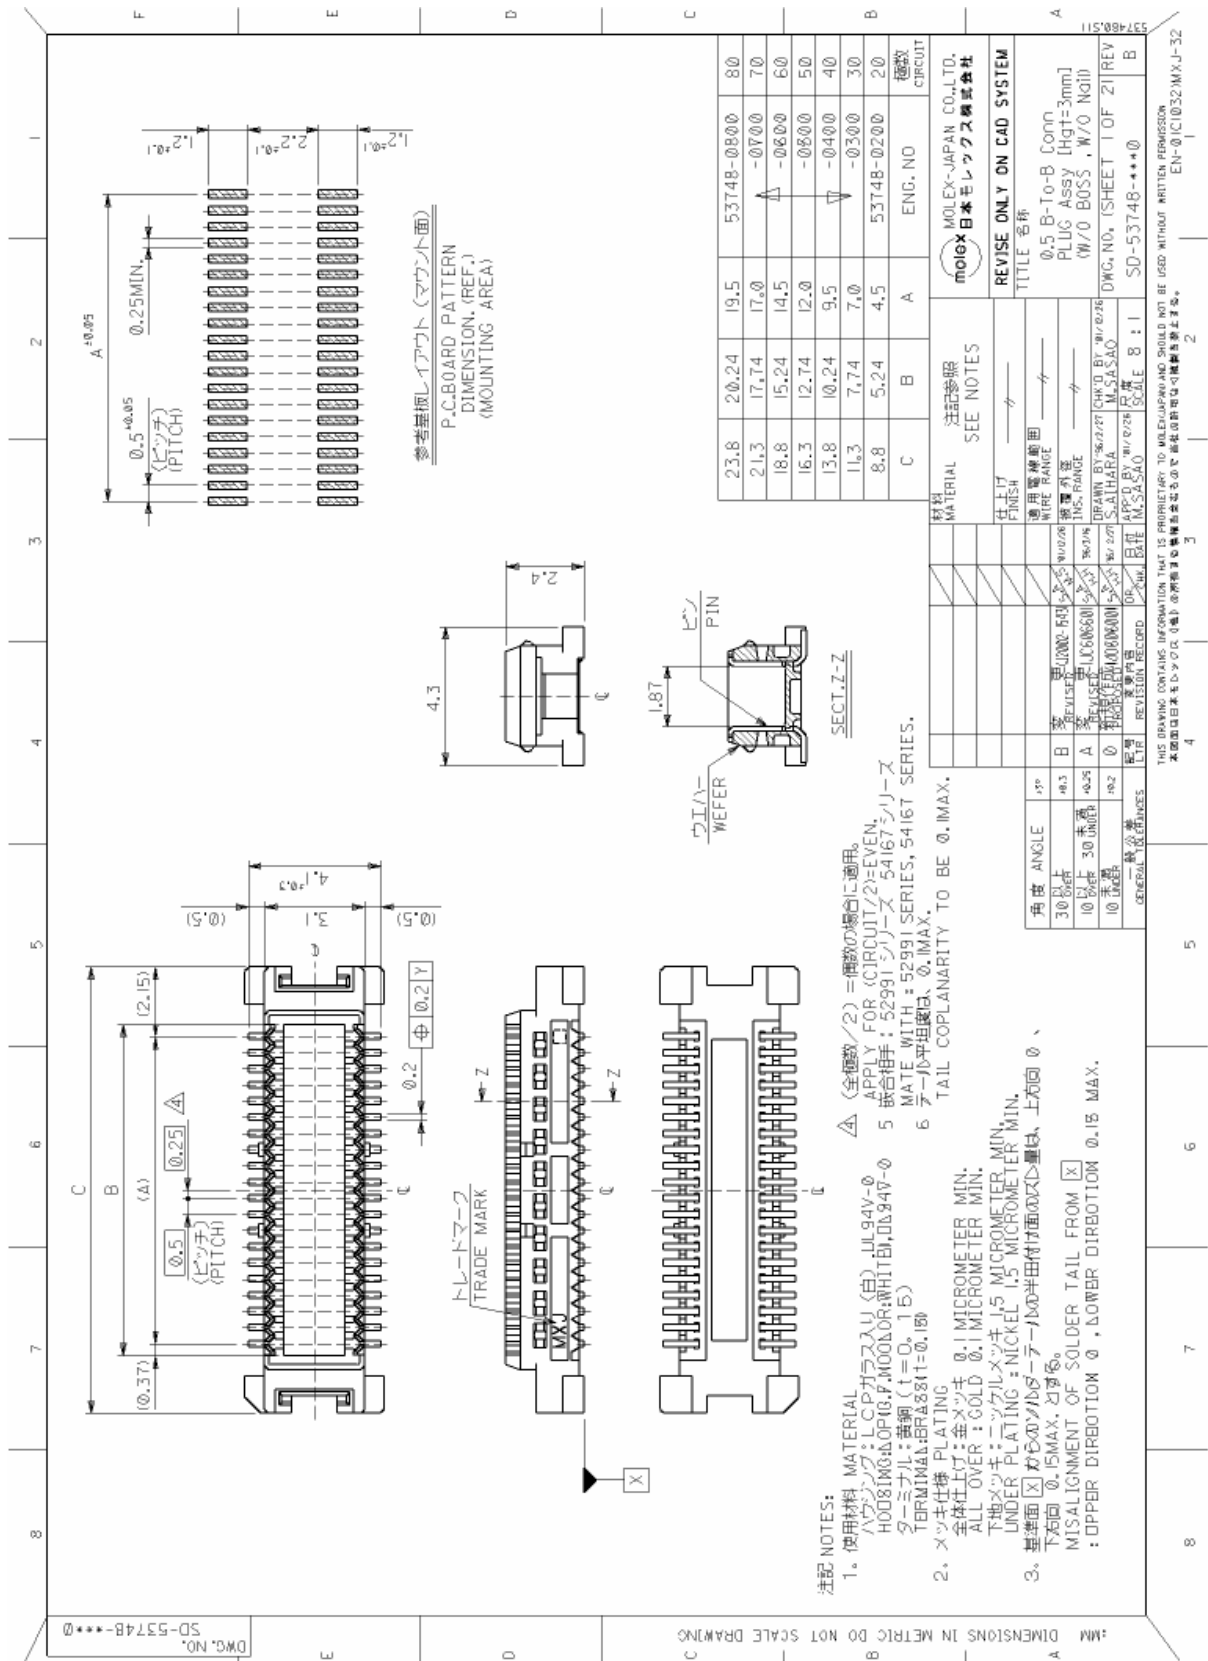

Figure 37: Mating board-to-board connector 53748-0808 on application
- 53748-0808 SlimStack Plug, 3mm stacking height, see Figure 37 for details.